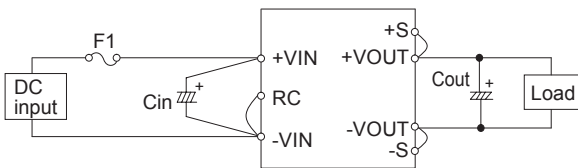
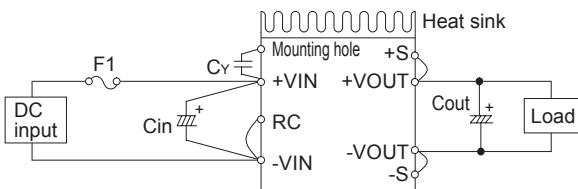

Fig.1.1 Connection for Standard Use (CQHS250)
Fig.1.2 Connection for Standard Use (CQHS300/CQHS350)
■ The power module needs input and output connection as shown in Fig.1.1 or Fig.1.2.
■ A decoupling capacitor C_Y must be used to reduce the line noise on the input line and stabilize the power module operation (Fig. 1.2). Note that resonance and inductance from the input line filter may cause the power module to become unstable.
(3) External capacitor on the Input
■ An external capacitor C_{in} must be installed between +VIN and -VIN to reduce line noise and stabilize the power module operation (Fig. 1.1 and Fig.1.2).
- Install an external capacitor C_{out} between +VOUT and -VOUT to increase stability of output (Fig. 1.1 and Fig.1.2). Recommended capacitance of C_{out} is shown in Table 2.2 and Table 2.3.